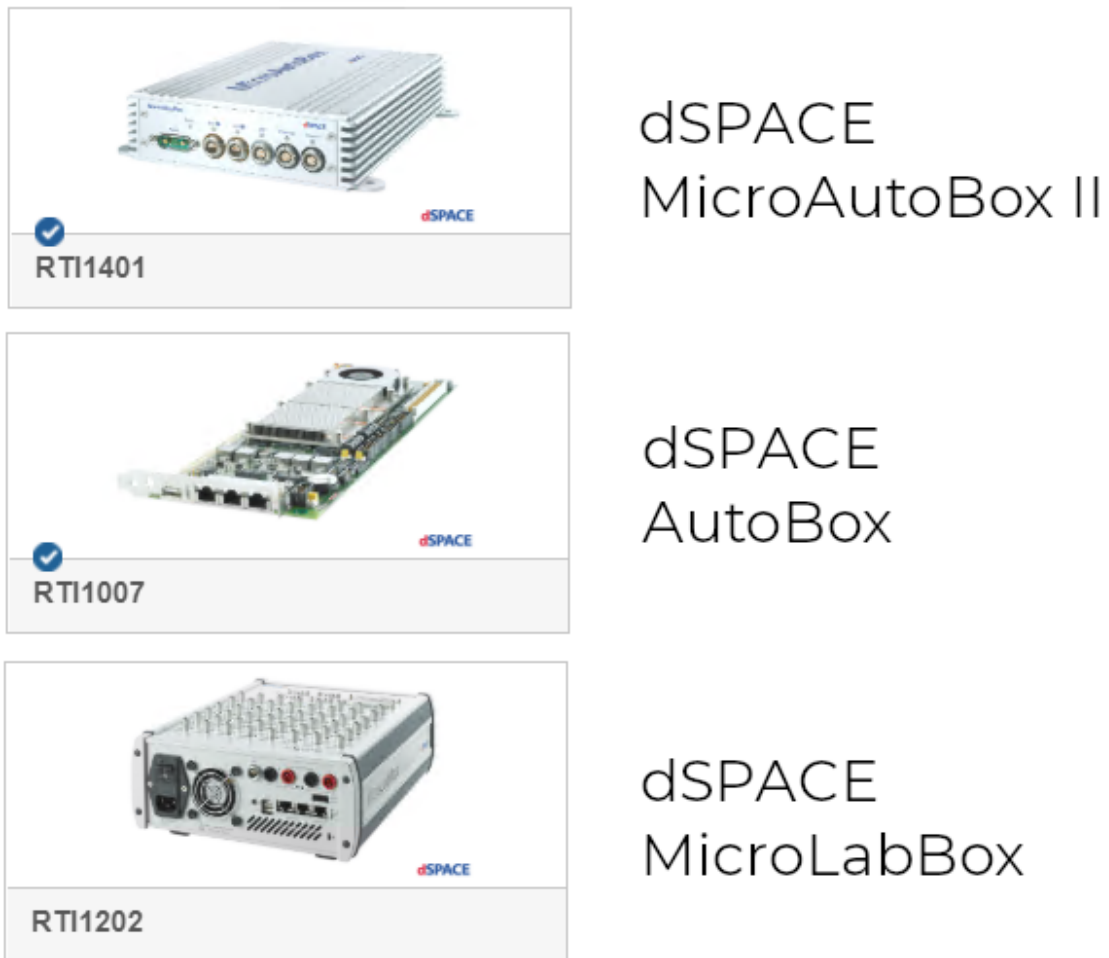

Figure 13.2: Create a Simulink model.
2. (Figure 13.2) Create a new Simulink model using the Simulink model template provided by dSPACE (for <simulink_model_template> see *Simulink Model HW Target Configuration*).